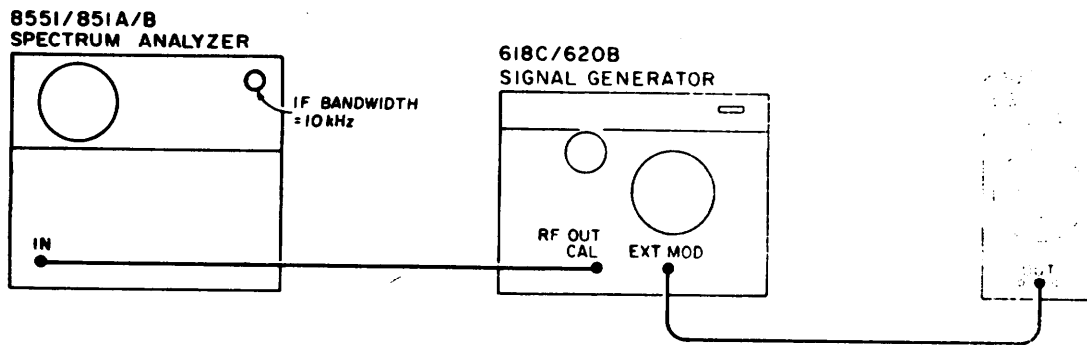

Figure 5-5. Setup for Testing Internal and External FM.
a. Connect Signal Generator in test setup shown in Figure 5-5 without the oscillator in the setup.
a. Connect Signal Generator in test setup shown in Figure 5-5.